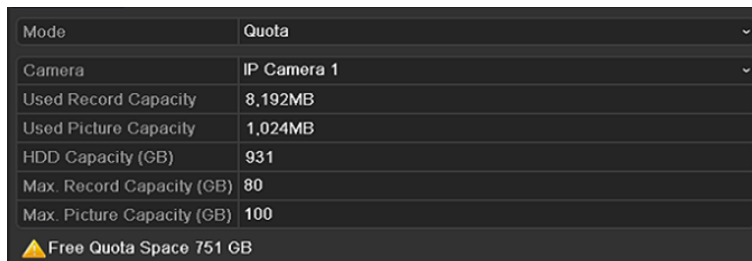

Figure 12-18 Storage Mode Settings Interface
Step 2 Set the **Mode** to Quota, as shown in Figure 12-18.